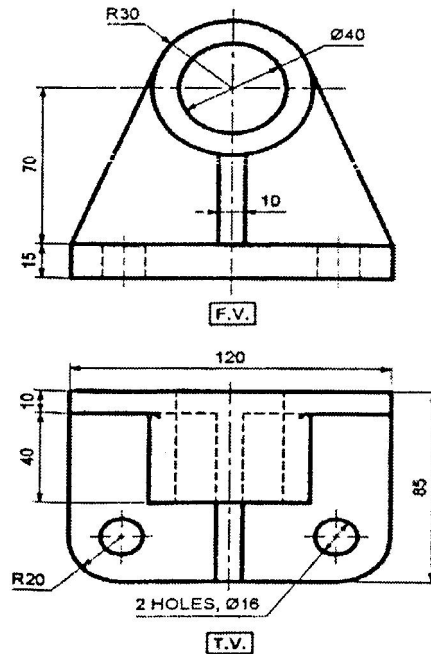

Fig. 4.3
- (c) Fig. 4.3 shows the top view and front view of a bracket. Draw missing view (L.H.S.V.) of an object.